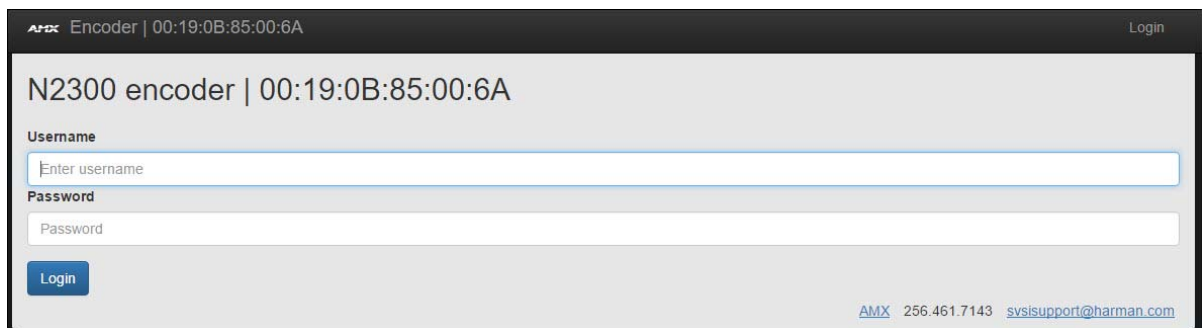

FIG. 12 Login Page
4. Double-click the Encoder's name in the list. The **Login** page is displayed (see Figure 12). If prompted, use the following default login credentials to log in for the first time. These can be changed later on the **Settings** page.